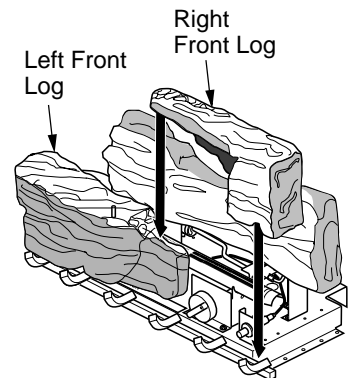

Figure 19 - Left and Right Front Log Placement (Variable Manually-Controlled Models)
2. Place left front log on grate fingers as shown in Figure 19. Place right front log on grate fingers and on left front log (see Figure 19).